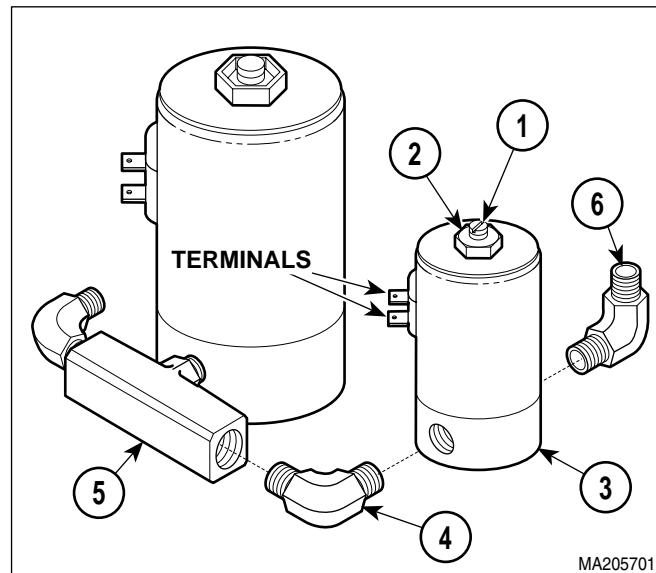

Figure 4-11. Vent Solenoid Fittings Removal / Installation
- (7) Remove manifold assembly (12) and spacer (12A) from base (13).
- (8) Hold screw (1, Figure 4-11) and loosen nut (2). Turn terminals out of the way.
- (9) Remove assembled vent solenoid (3) and elbow (4) from tee (5).
- (10) Remove elbows (4 and 6) from vent sole-noid (3).
- (1) Coat the threads of elbows (4 and 6, Figure 4-11) with teflon tape.
- (2) Install elbows (4 and 6) on vent solenoid (3).
- (3) Hold screw (1) and loosen nut (2). Turn terminals out of the way.
- (4) Install assembled elbow (4) and vent solenoid (3) on tee (5).
- (5) Turn terminals of vent solenoid (3) so wires will connect easily to vent solenoid.
- (6) Hold screw (1) and tighten nut (2).